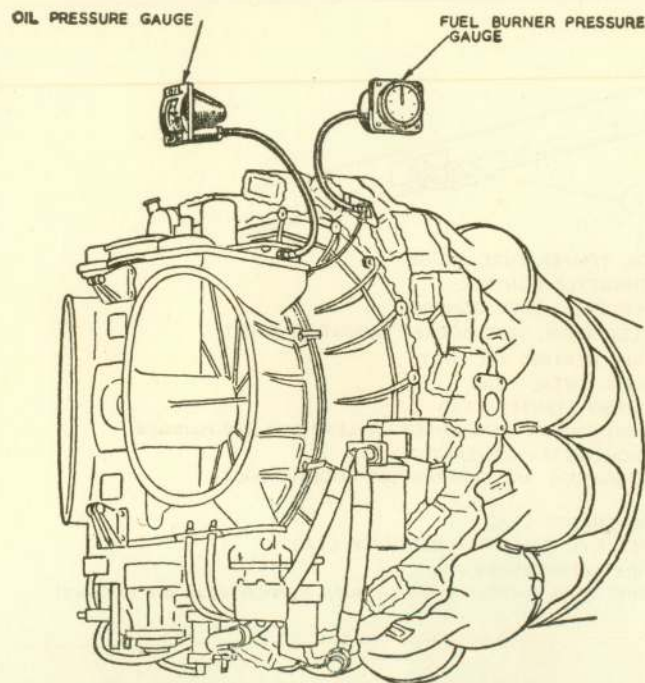

Fig. 9. Fuel and oil pressure check points
15. Full details for ground running the engine are given in A.P.4320A & C, Vol. 1. Since a fuel burner pressure gauge is not fitted in the aircraft, a suitable gauge and transmitting line should be connected to the union at the forward end of No. 1 burner to obtain the necessary readings. Similarly, an oil pressure gauge and transmitting line should be connected to the engine oil pressure gauge connection (fig. 9).